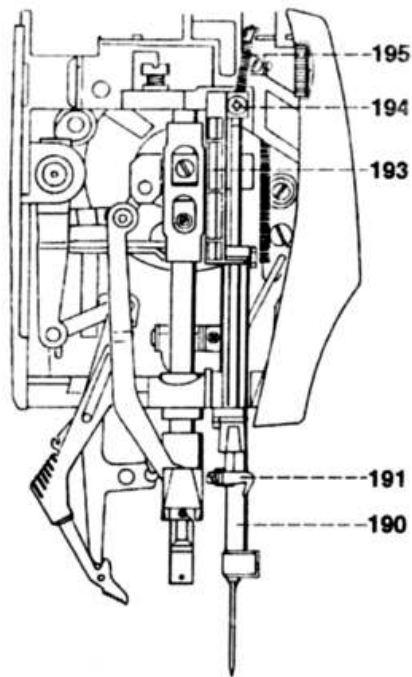

Fig. 15b
- Disconnect pull-spring 195 at the top (fig. 15b).
- Turn pull-spring 195 by two full turns counter-clockwise and engage it in hook 196 so that the spring is positioned towards the left. (fig 15b).